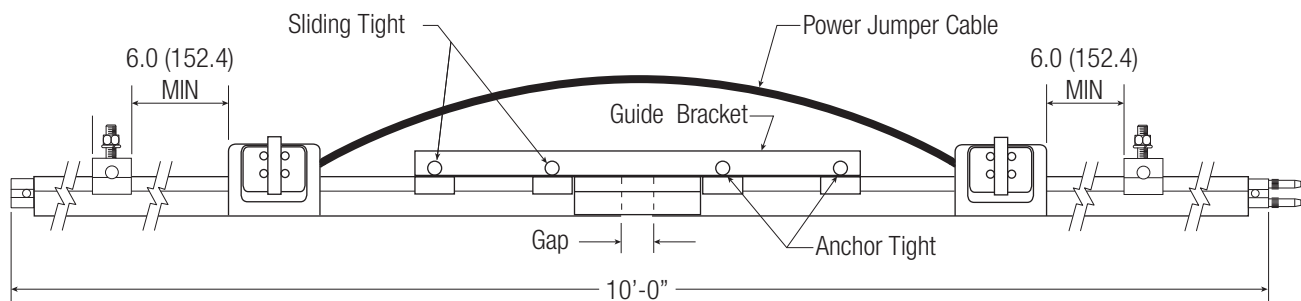

Figure: 8-1
- The anchor tight side is the side with the pin installed at the end of the bar. See Figure: 8-1.